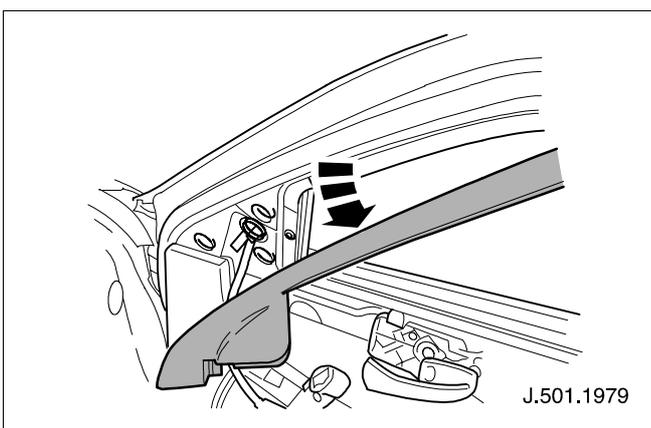

Fig. 4
- 1 Remove the door casing and the garnish trim (see Fig. 4). (See Workshop Manual (JTIS CD ROM) section 501-05)